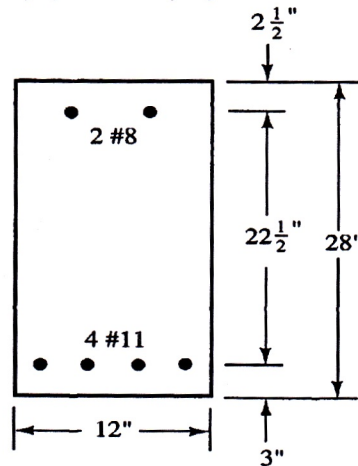

Fig. 4
5. a) Differentiate between USD and WSD. Which method of design provides maximum factor of safety? Justify your answer. (2)
- b) A rectangular beam has a width of 12" and an effective depth to the centroid of the tension reinforcement of 17". The tension reinforcement consists of three no. 9 bars in a row. Calculate the design moment capacity of the beam using both USD and WSD. Given, $f'_c = 5$ ksi, $f_y = 60$ ksi, $f_s = 24$ ksi, $E_s = 29000$ ksi, $E_c = 3222.22$ ksi. (8)
6. a) Write down the ACI specifications for determining the effective width of T-beams and L-beams. (2)
- b) Define development length. Explain the relationship of (i) Location of reinforcement and (ii) Coating of bars, with development length by means of the factors Ψ_t and Ψ_e . (2)
- c) Calculate the nominal and design moment capacity of the beam shown in Fig. 4. (6)